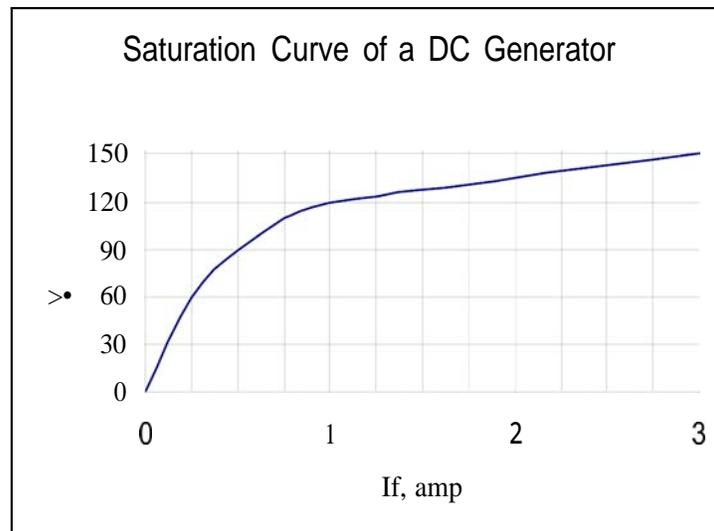

FIGURE 12.7
2. Figure 12.7 shows the no-load saturation curve of a separately excited dc generator when revolves at 1500 rpm. Calculate the exciting current needed to generate 120 V at 1300 rpm.